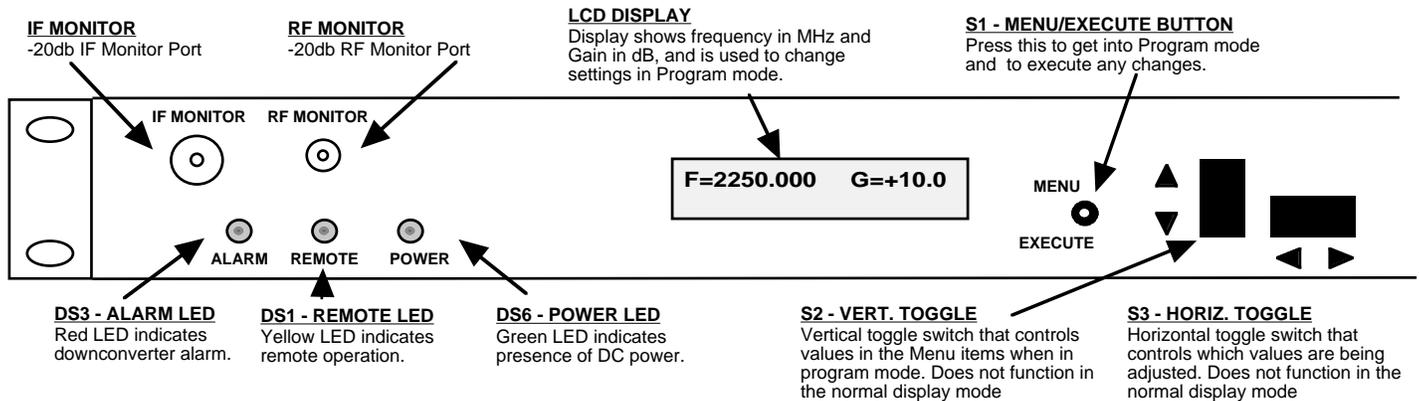

FIGURE 2.3 2016-25-01 Front Panel Controls and Indicators
6. Be sure DS6 (green, DC Power) is on and DS2 (red, Alarm) is off (Figure 2.3).
7. **AC Fuse** - The fuse is a 5 mm X 20 mm, 2 amp slow blow (Type T) and is inserted in the far slot in the drawer below the AC input as shown in Figure 2.3. There is a spare fuse in the near slot. If a fuse continues to open, the power supply is most likely defective.